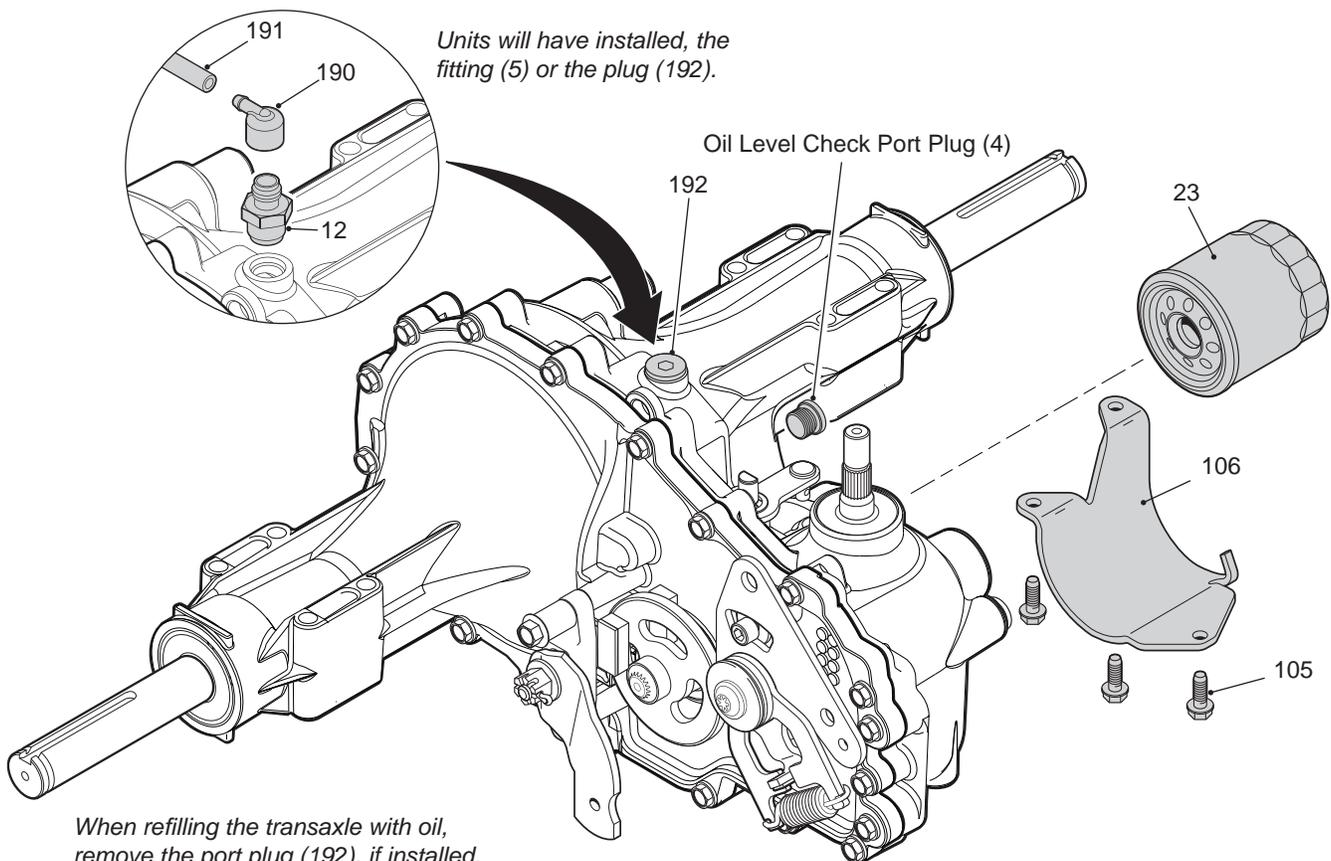

Figure 3, Filter and Guard
1. Remove the three 1/4" filter guard screws and filter guard. Clean any loose debris from around the perimeter of the filter. See figure 3.
Refer to Figure 3